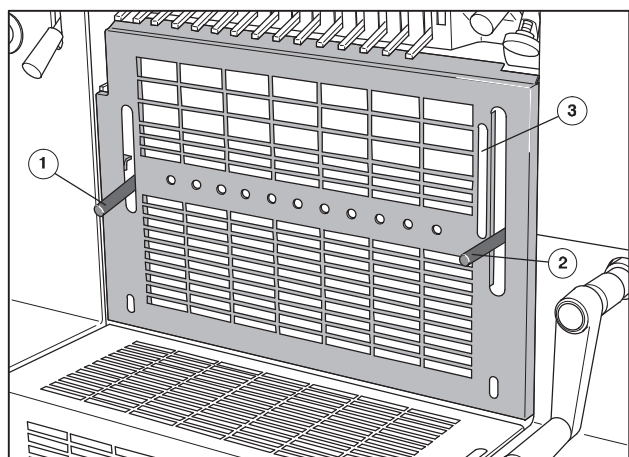

Fig. 21 Inking unit guard
1. Adjust the **fountain roller sweep** with the lever on D.S. (Fig. 21/1).
2. **Turn the ink fountain roller** with the lever on O.S. (Fig. 21/2).
The borehole in the shaft is accessible through the slot in the inking unit guard (Fig. 21/3), in order to **engage or disengage the ink vibrator** (see the following section).